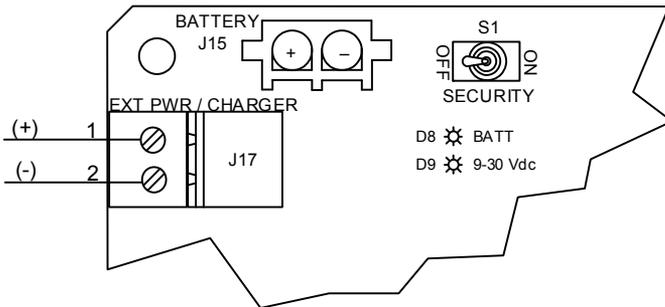

Figure 1: μ FLO^{G5} electronic board power connections
1. Disconnect the external power / charger connector from J17 (Figure 1).
2. Reconnect the external power / charger connector from J17 (Figure 1, on page 5).